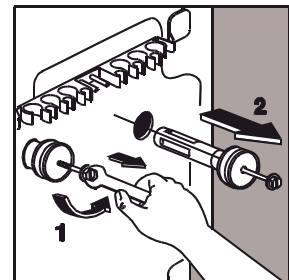

Fig 4
- Use a 10 mm spanner to remove the two screws and spacers at the back (fig. 4).